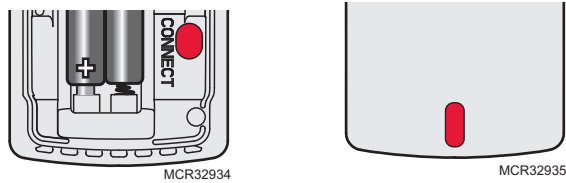

Fig. 49. Wireless indoor sensor connect button and status light.
1. Press and quickly release the CONNECT button. After a short delay, the status light (see Fig. 49) will glow green for 15 seconds. If the status light turns red, the sensor did not link with the thermostat.